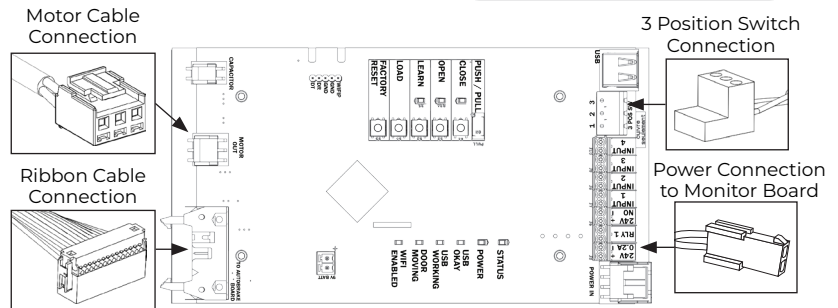
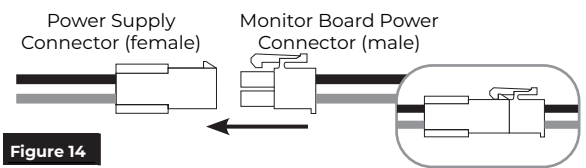

Figure 13
Figure 14
5. Connect the motor cable and ribbon cable from the operator body to the power supply control board. (Figure 13)
6. Connect the 3-position switch to the power supply control board. (Figure 13).
7. Connect the operator's monitor board to the power supply by plugging the Monitor Board Power cable (male) into the pre-wired Power Supply cable (female). (Figure 13 and Figure 14)